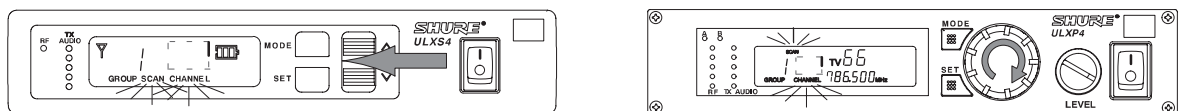

FIGURE 10
- Press the or buttons (ULXS4) or rotate the control knob (ULXP4) clockwise one quarter turn. The next open Channel number will appear on the display, as shown in Figure 10.